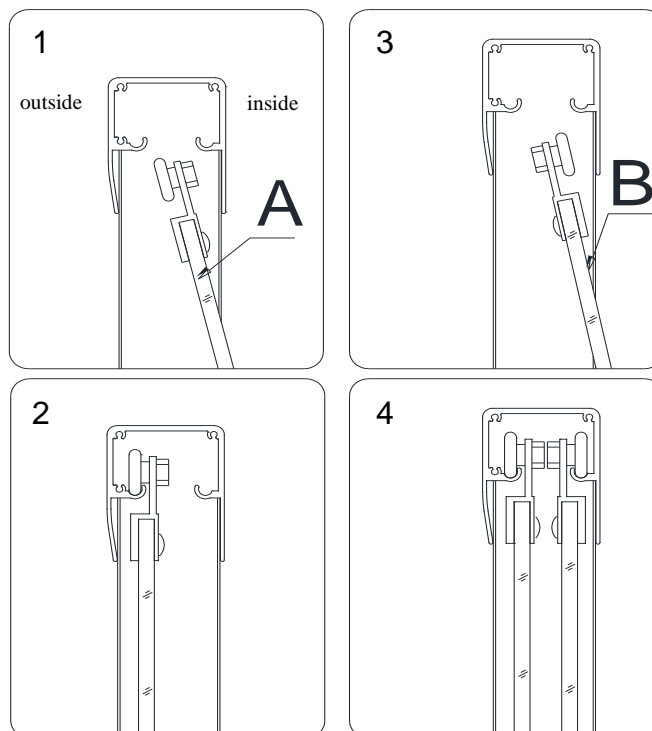
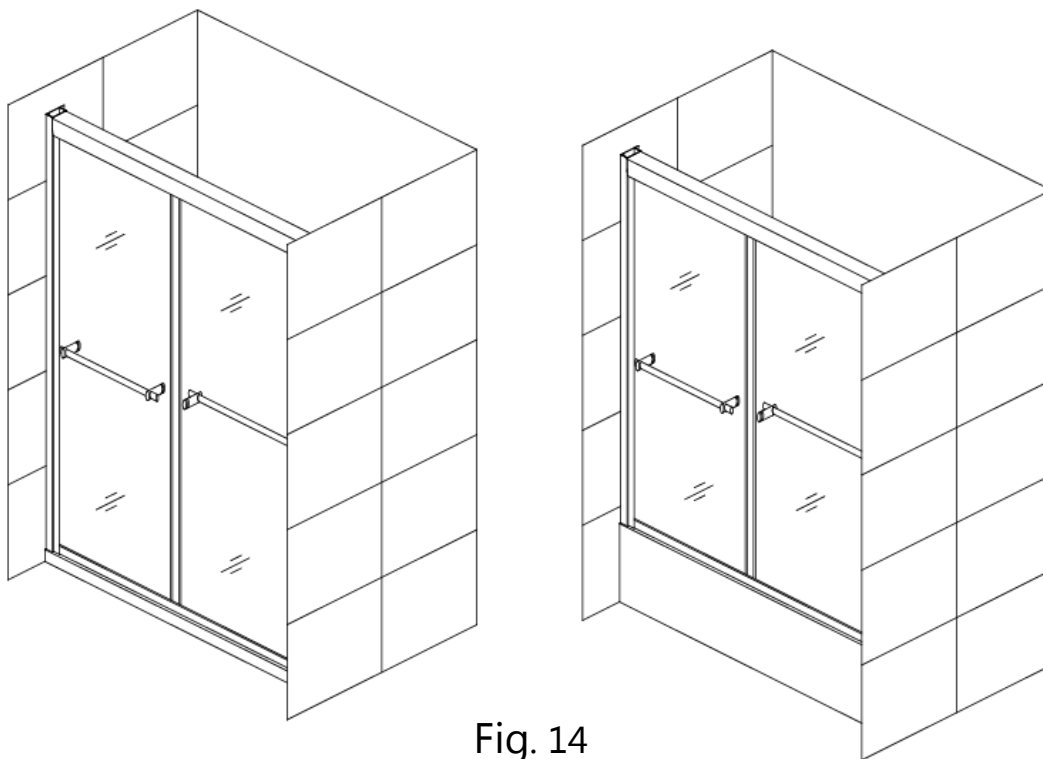

Fig. 13
Fig. 14
9. From inside of the shower, install the outside **Glass door (A) (#05)** first, as shown in Fig 13.1 and 13.2. Then install the inside **Glass door (B) (#05)** making sure that the rollers are aligned in the **Upper guide rail (#01)** as shown. See Fig. 13 and Fig. 14 for details.